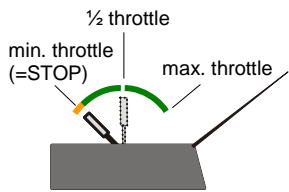

Fig. 1
- a) Aircraft one way** (fig. 1): Standard aircraft driving. "STOP" throttle position is identical with "brake" position. Transmitter without lock of STOP position.
- d) Boat one way** (fig. 1): Backward run is blocked by SW as well as by throttle position. Transmitter without lock of STOP position.